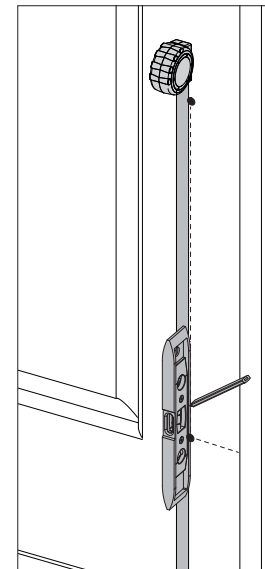

Figure 3.
- 2.3. Using a spirit level, mark the bottom fixing point — noting the CTC measurement. (Figure 3)
- 3.3. Drill 2mm pilot holes for the wood screws at each end and affix the pencil spindles to the door with wood screws provided. (Figure 3)